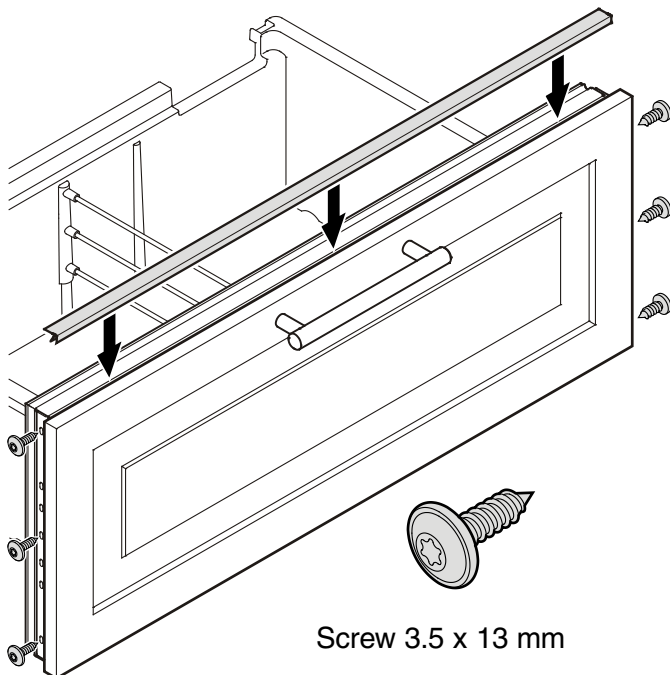

Figure 23
Mounting the freezer drawer panels - Figure 23
1. Pull out the upper freezer drawer and screw on the panel with three screws at left and right hand side using the screws as shown in **Figure 23**.
4. Finally cover the gap between the drawer and the panel of both freezer drawers with the strips provided. Remove the foil from the adhesive surface of the strip and stick on the top of the appliance drawer (**Figure 23**) making sure the flexible gasket is fully inserted in the gap.